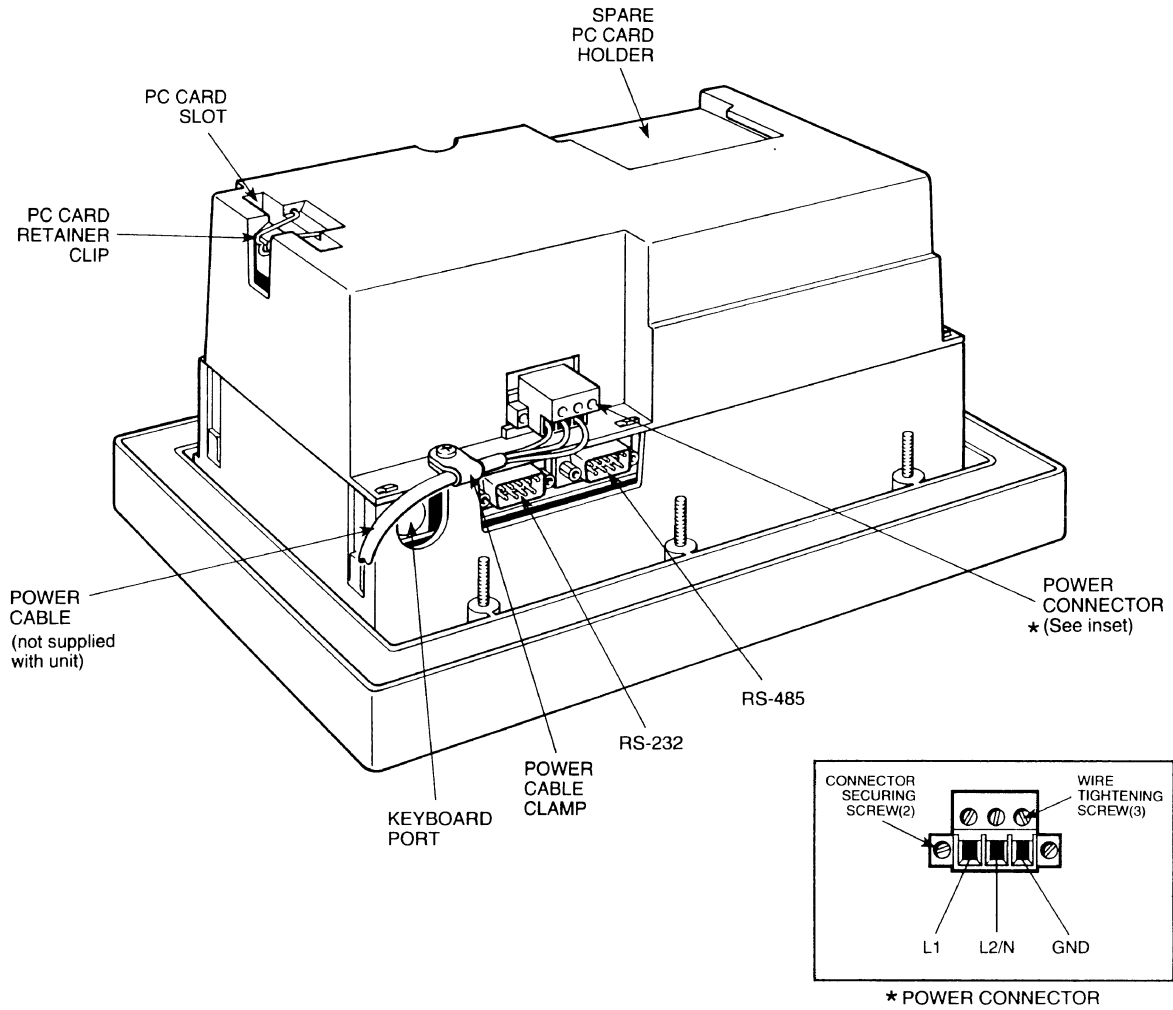

Figure 2. Rear View
The 3100 supports both RS-232 and RS-485 external termination serial ports. (Refer to Figure 2 for locations of the ports, and Chapter 8 for pinout and cable information.)
- *Figure 2, page 2-5* - Rear View
1. Unlatch the PC card retainer over the slot (a small screw driver may be needed to pry the clip up). See Chapter 2, Figure 2.